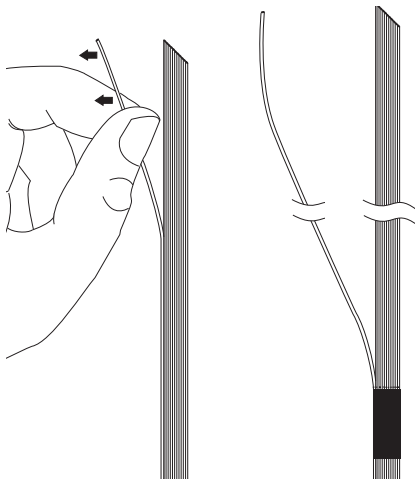

Figure 20
Step 6: Pull this fiber until it is separated down to the wrap made in step 2 (Figure 20).